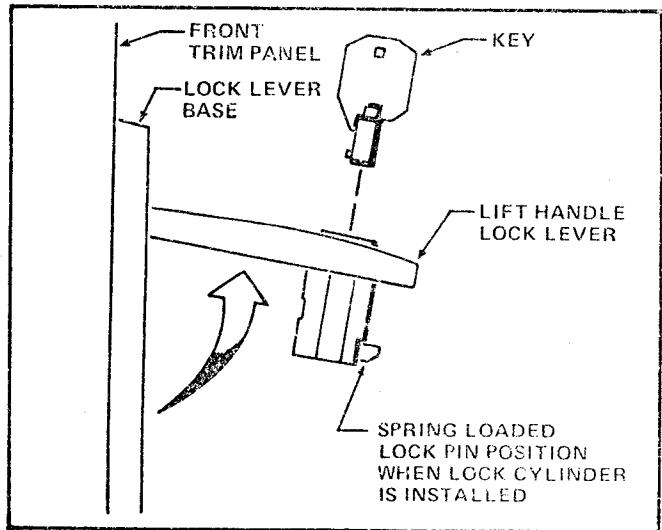

FIGURE 6
4. Push the Lock Cylinder in and turn slightly with the Key if necessary until the Spring Loaded Lock Pin snaps through the groove in the bottom rear side of the Lock Cylinder Hole. See Figure 6.